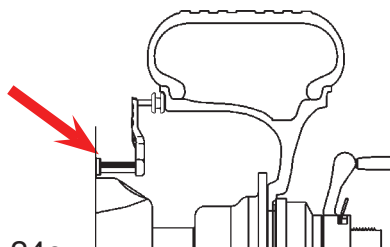

Figure 24c
- Move the distance gauge arm to touch the inner edge of the wheel where weights are to be placed and observe the reading on the scale of the distance gauge (See arrow, Fig.24c). Press manual Wheel **Offset** button (O) followed by selecting the +/- keys until value is displayed in the display window.